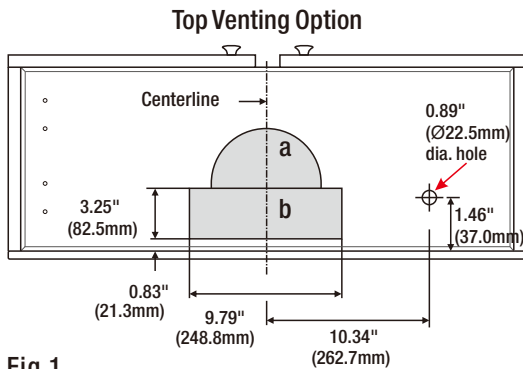

Fig.1
- A: Determine if your existing venting type is top venting or back venting, and ensure that the openings in the cabinet or wall for the damper and for power access are in appropriate locations and are of appropriate sizes, as per fig.1 if it is top venting or fig.2 if it is back venting. For top option in fig.1 you can see the round damper pre-installed you just need to open the a and b only. If you are using the rectangular damper, please remove the pre-installed round damper B and install the rectangular damper D.